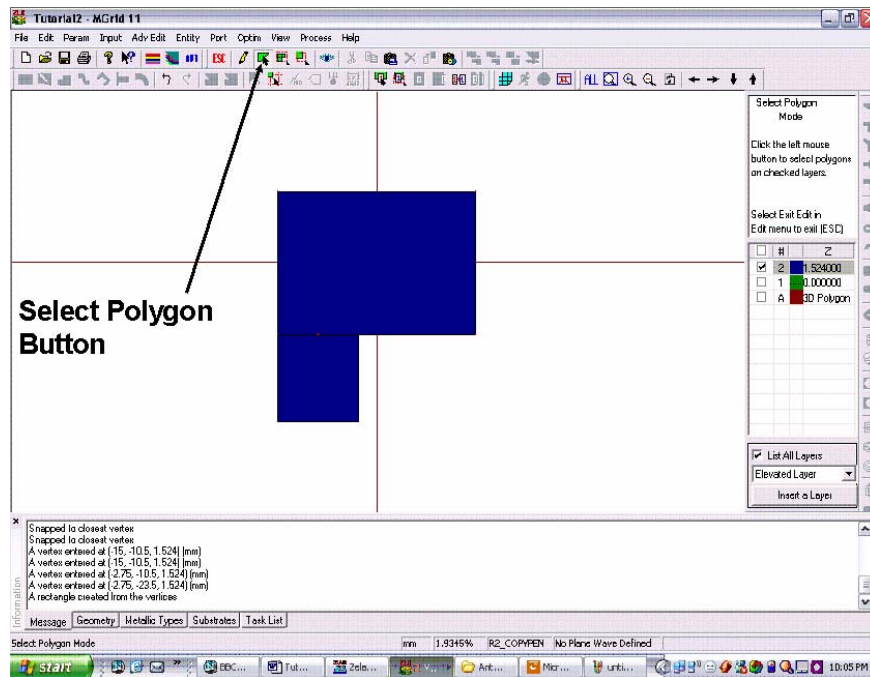

Figure 11.
12) Press the “Select Polygon” button shown in Figure 11 (). The shape of mouse cursor changes from the cross “+” to the ordinary mouse cursor ().